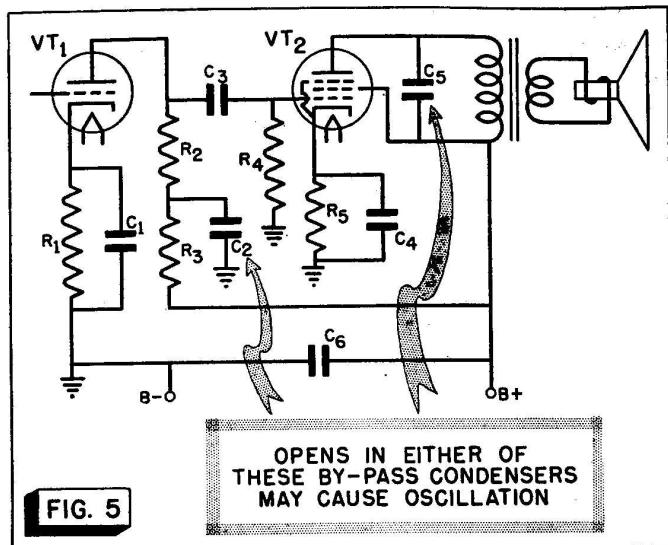

FIG. 5
**Audio Section Troubles.** Now, let's look at the typical audio-amplifier shown in Fig. 5. There are two condenser troubles that may cause oscillations in this circuit.